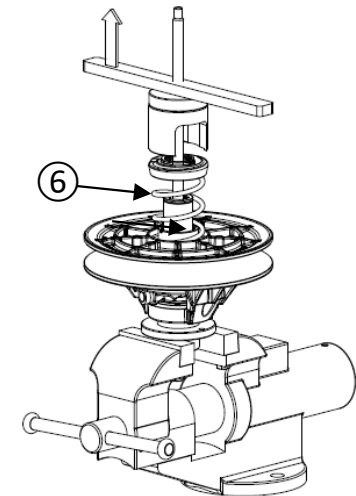

Figure 19
- Slowly unscrew the bar on the threaded rod to release the spring ⑥ tension (figure 19).